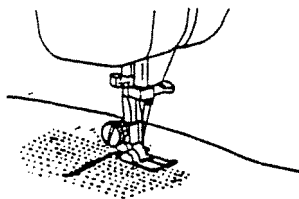

Fig. 35
- 1) At first begin to sew according to the warp toward and away from you across the broken part. (Fig. 35)